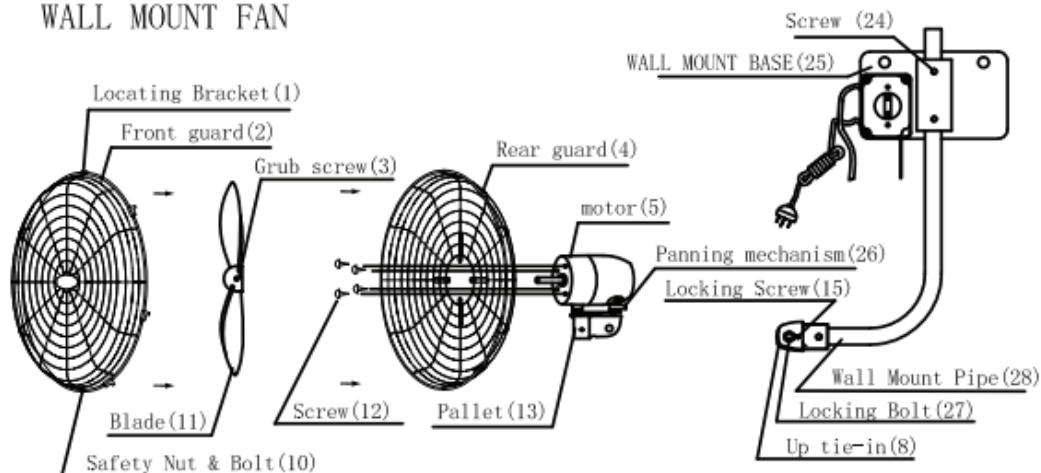

Figure 1.
1. Wall Fan - mount the fan according to the Figure 1. During assembly check all parts for possible damage during transport.
4. The **Pedestal Fan** has a knob switch (4) with 4 positions, labeled 0,1,2 &3. Position 0 = Off, 1 = slowest speed, 2 = medium speed and 3 = fastest speed. The **Wall Mount Fan** is fitted with a pull cord style switch. Pull down lightly on the cord once to switch it on to the slowest speed. Pull it again for the medium speed and again for the fastest speed. Pull the cord again to switch the fan off.
5. Care must be taken when adjusting the height of the fan. To adjust the pedestal fan, support the weight of the fan head prior to loosening the adjusting knob (19). Make sure the large rubber washer (16) is positioned at the bottom of the upper tube. Tighten adjusting knob when at the required height. Adjust the Wall Fan by loosening the bolt (24) in the wall plate and raising or lowering the bracket. Be sure to support the weight of fan prior to loosening the bolt.
6. The Oscillation is adjusted by moving the screw (7) in or out of the slot under the oscillating disc. Moving the screw towards the centre will give a smaller range and moving it towards the outside will give it a wider range of oscillation.